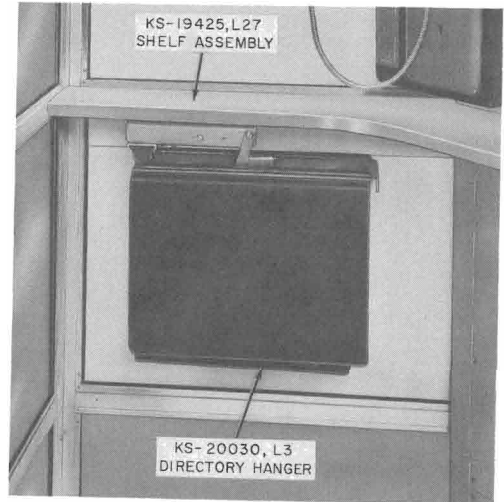

Fig. 10—KS-19425, List 27 Shelf Assembly with KS-20030, List 3 Directory Hanger
- 2.19** Refer to Fig. 10 through 12.
3.20 There are two shelf assemblies, a directory rack, a directory hanger and a directory shelf available for the booth. Install, when required, as follows (see Fig. 10 through 12):
(a) **KS-19425, List 27 Shelf Assembly and KS-20030, List 3 Directory Hanger (Fig. 10).**